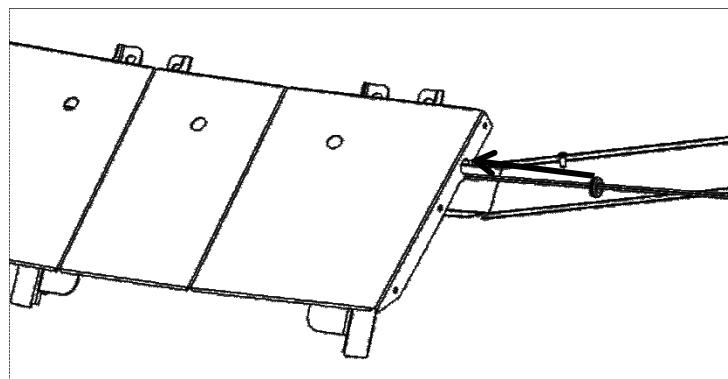

Figure 10
- Slide grommets (on WH-EX) into side of center visor section (see figure 10).